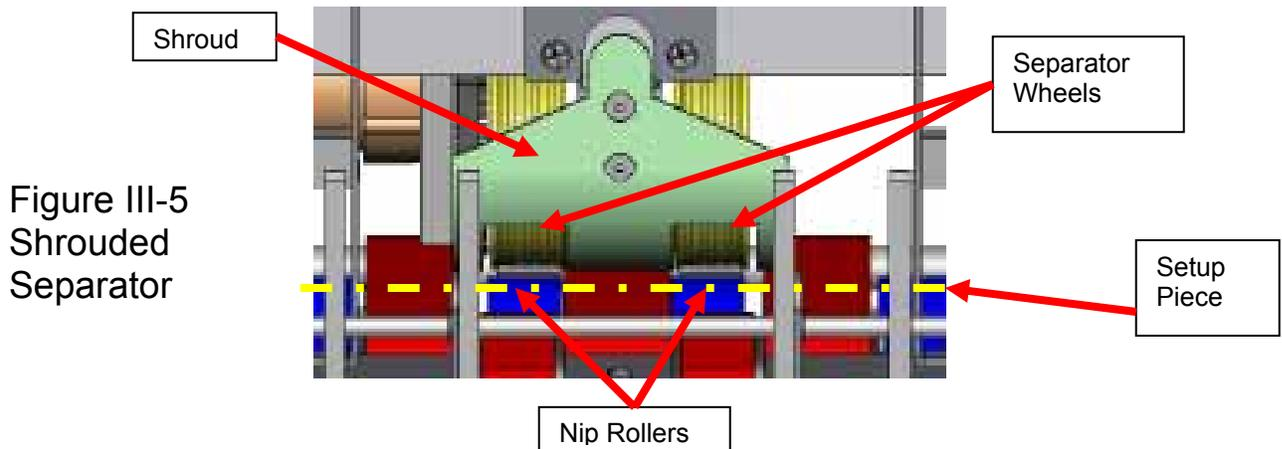

Figure III-5
- Insert the setup piece between the separator wheels and the blue nip rollers. While moving the setup piece back and forth beneath the separator wheel, turn the separator adjustment knob counter-clockwise (CCW) until resistance is felt from the separator wheels (see later discussion on fine-tuning of the separator wheel), see figure III-5.